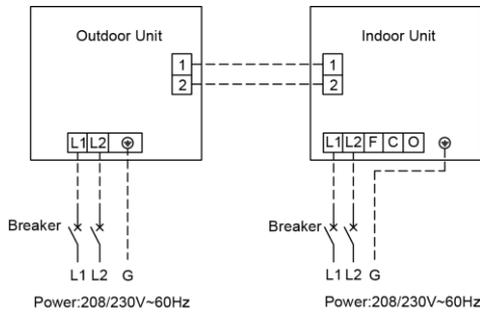

Fig. 4.40
- ① The power wire and the wire of the fresh air valve are high-voltage, while the communication wire and connection wire of the wired controller are low-voltage. They should run separately to avoid electromagnetic interference.
- ② The high-voltage and low-voltage lines should pass through the rubber rings of the different electric box covers.
- ③ Do not bundle the connection wire of the wired controller and the communication wire together, or arrange them in parallel, improper operation would occur.
- ④ The high-voltage and low-voltage lines should be fixed separately and securely, with internal big clamps for the former and small clamps for the latter.
- ⑤ Tighten the indoor/outdoor connection wire and power wire respectively on the terminal boards with screws. Faulty connection may cause a fire.
- ⑥ If the indoor unit connection wire (to the outdoor unit) and power supply are wired incorrectly, the air conditioner may be damaged.
- ⑦ Connect the indoor unit connection wire properly based on the corresponding marks as shown in Fig. 4.40.
- ⑧ Ground both the indoor and outdoor units by attaching a ground wire.
- ⑨ Unit shall be grounded in compliance with the applicable local and national codes.
(6) Electric wiring of outdoor unit side